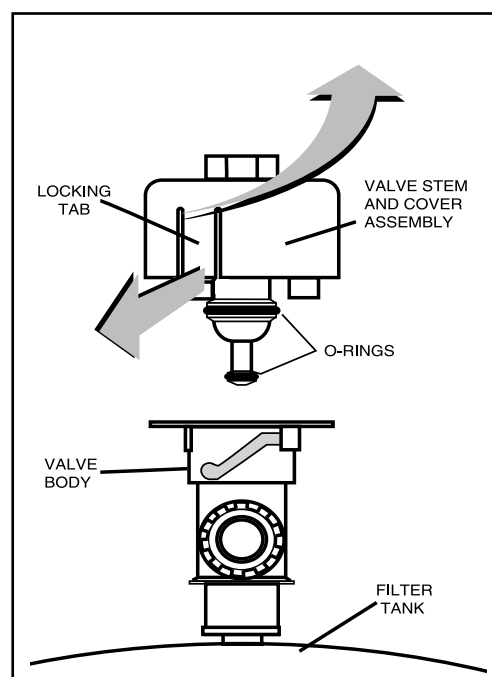

Figure 3.
3. With the relief valve attached to the filter tank, pull out the locking tabs and remove the valve stem and cover assembly with a counterclockwise and lifting motion, see Figure 3.